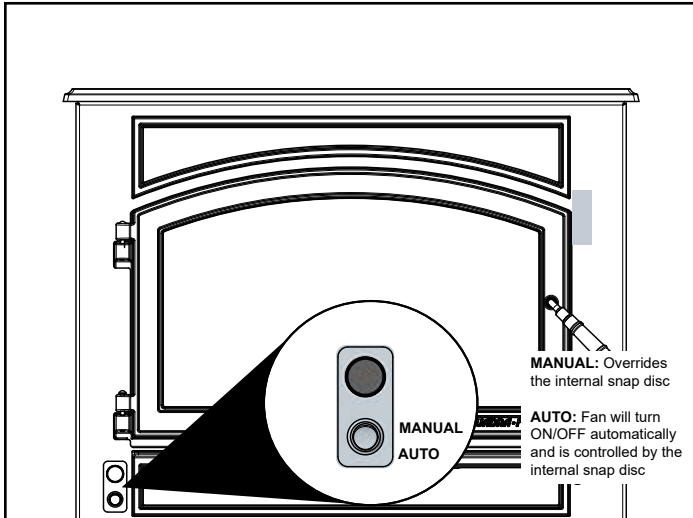

Figure 14.1
1. The blower will turn on/off automatically when set to **AUTO (Figure 14.1)**.